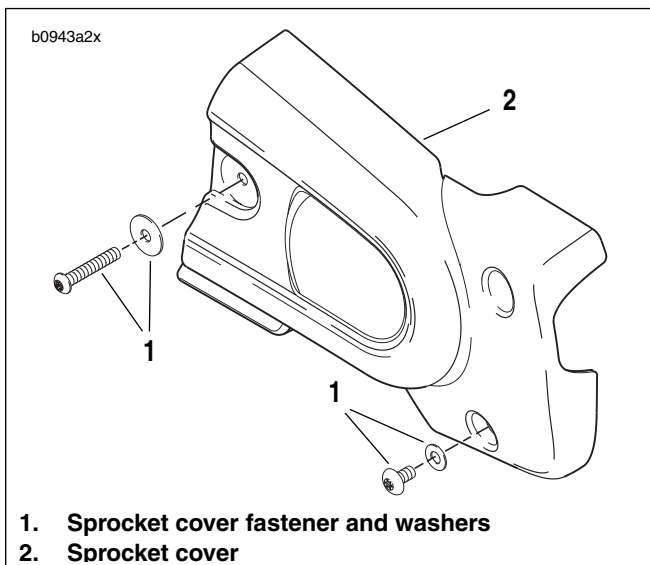

Figure 6-40. Sprocket Cover
4. See Figure 6-40. Remove sprocket cover. See 2.30.
6. Tighten rear axle pinch fastener (2) to 40-45 ft-lbs (54-61 Nm).
7. See Figure 6-40. Install front sprocket cover. See 2.30 SPROCKET COVER.